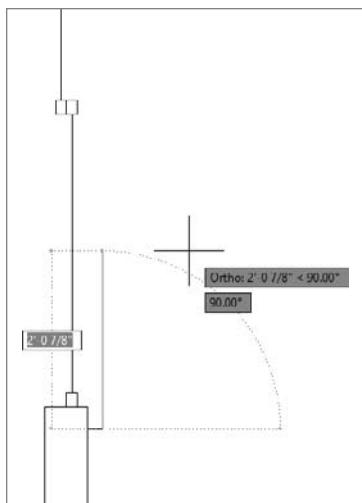

FIGURE 5.6 Using direct input to draw the bottom edge of the threshold
7. Hold the crosshair cursor directly to the right of the last point; when you see the alignment path and tooltip, enter $2\downarrow$ (51 \downarrow) (see Figure 5.6).